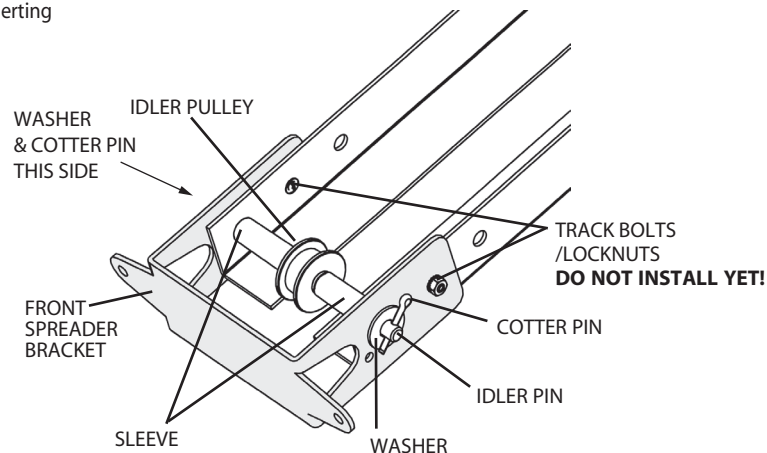

Figure 5
- 5) Install the idler pulley inside the track by inserting the 7/16" x 7" idler pin through one side of the track and as you feed it through an idler sleeve and the idler pulley followed by the second sleeve. Place a fender washer (7/16" x 1-1/4") over each end of idler pin. Secure idler pin by inserting a cotter pin through the hole in each end of idler pin. **Fig. 5**